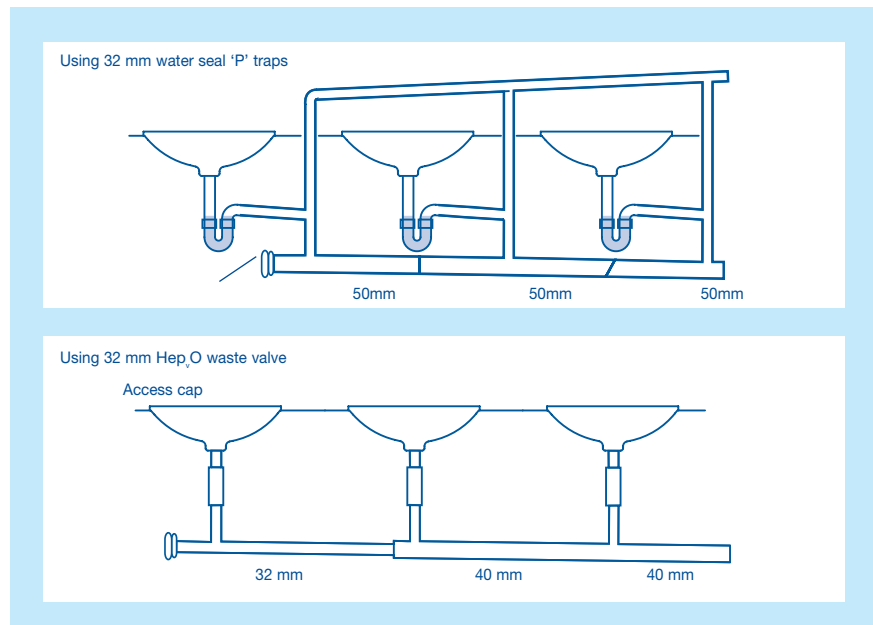

Figure 3. Schematic view for three basins.
1. Full bore flow can be a benefit where HepvO® is fitted to all appliances – see Figure 3. Full bore flow provides better self-cleansing, which means that smaller diameter waste pipe branches can be considered without fear of siphonage from traditional water-filled traps. This can also save space and cost.
HepvO® allows for simpler systems with less pipework & straight runs – see Figure 3. On completion of the installation, there is no need to perform self siphonage and induced siphonage tests for branch discharge pipes from waste appliances.